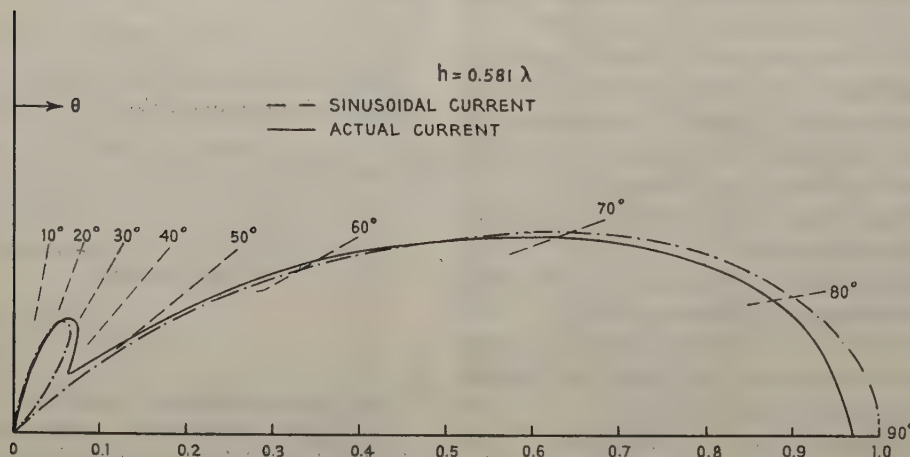
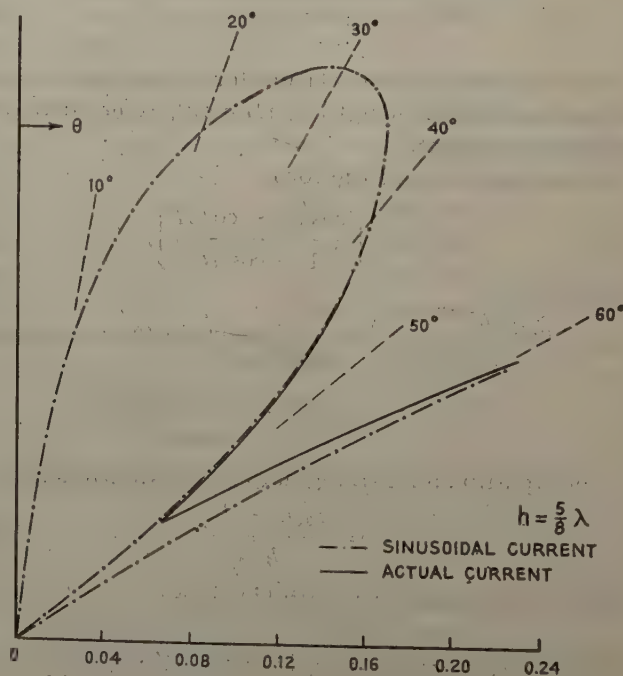

Fig. 2—Like Fig. 1 but with $h = 0.581 \lambda$, $h/a = 45$.
Fig. 4—A section like Fig. 3 but for $h = 5/8 \lambda$; $h/a = 75$.
Figs. 2 and 3 show the distant field computed from (11) for an antenna with $h = 0.581\lambda$ or $H = 3.64$ using
the distribution of current computed for this length and for $\Omega = 9$ by L. V. King.² The data are given in his Fig. 4 on page 393. The ratio factor C was determined in this case using his figure. A comparison of Figs. 2 and 3 with the distant field computed by L. V. King²